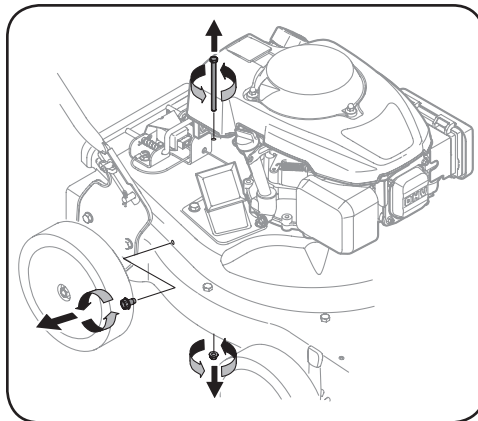

Figure 5-2
4. Remove self tapping screw on right side of unit that attaches to the flail screen. See Figure 5-2.
5. Remove hex screw on top of rear housing near mounting bracket and the flange lock nut that secures flail screen. See Figure 5-2.